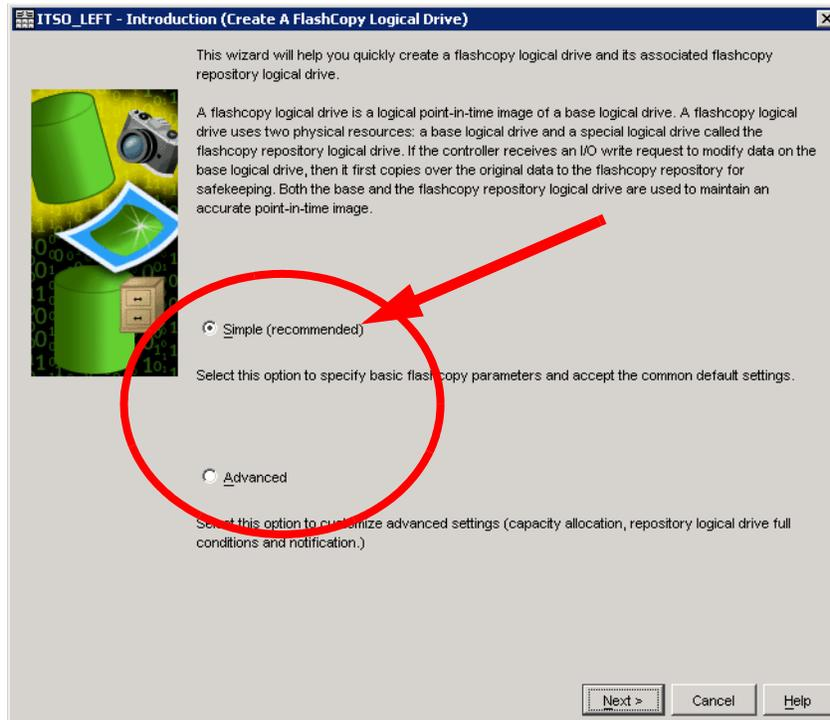

Figure 7-6 Create FC Logical Drive wizard Introduction: Simple
The Introduction window (Figure 7-6) defines what a FlashCopy logical drive is and the physical components associated with a FlashCopy logical drive. It enables you to select either the simple or advanced path through the Create FlashCopy Logical Drive wizard:
2. If choosing the simple path, as shown in Figure 7-6 on page 410, click **Next**, then follow these steps: